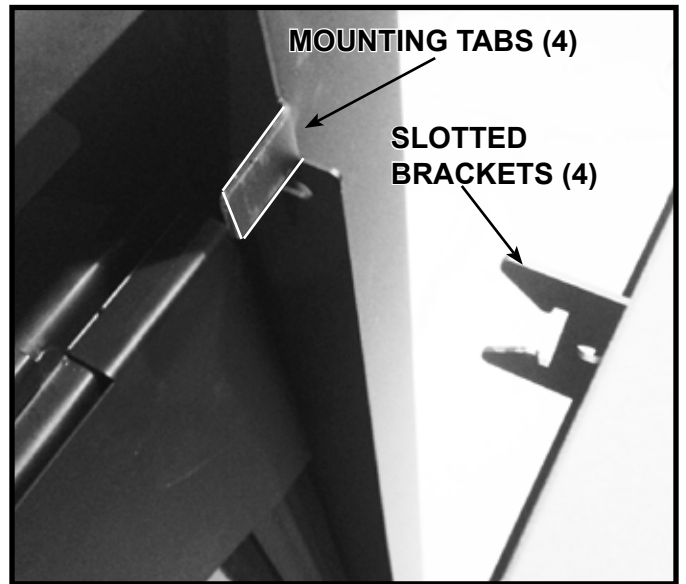

Figure 12. Install Decorative Front
12. Install the door to the mounting brackets by engaging the brackets mounted on the door assembly to the mounting brackets located on the appliance. See Figure 12. Ensure the decorative front is properly attached and securely positioned on the appliance.